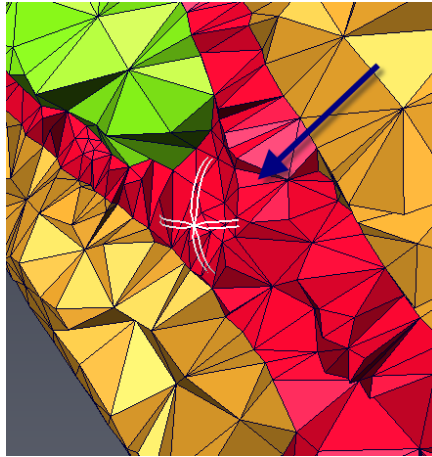

Figure 20.9: Clipping Plane Rotation Manipulator
- Click **Rotate** in order to show a dedicated manipulator located at the center of the plane (Figure 20.9). Select the manipulator with the left mouse button and rotate by moving the mouse